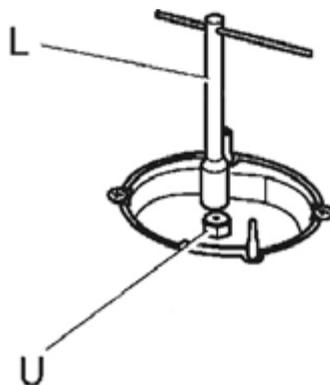

Fig. 5
- By means of a straight spanner L, unscrew the nozzle U (fig.5) and substitute it with the corresponding one.